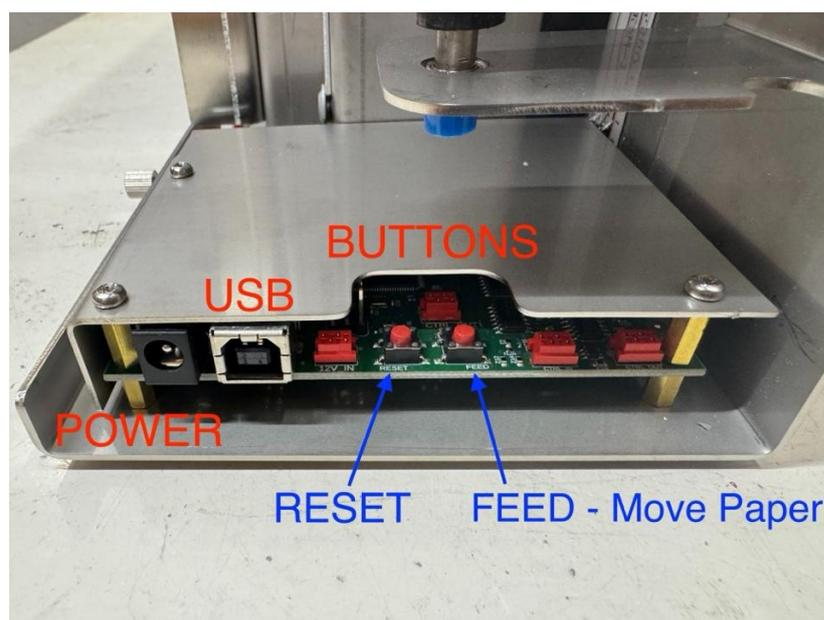

Figure 3. Main Board connection ports and buttons.
1. Hang an InBand Air to the mounting screws. Connect the USB and power source cables (Figure 3). Switch on the power and the LEDs will light up.
- Assemble the control sheet roll (loose strip to the front) onto the mount on the top of the EST device (Figure 4). Slide the control sheet trough upper and lower gaps until it reaches the motor. Then push the red motor driving button (Figure 3). Help the control sheet move forward with one hand when pushing the button. Tighten also the nut on the control sheet mount so that the control sheet will not roll too excessively.